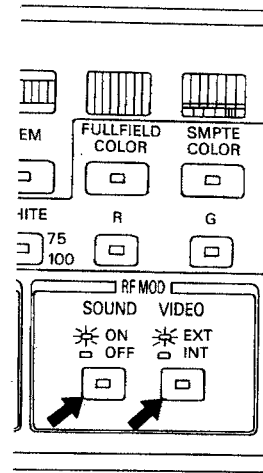

Figure 4.23
4.7.2 Video Modulation (See Figure 4.23 and 4.24)
4.7.3 Sound Modulation (See Figure 4.23, 4.24 and 4.25)